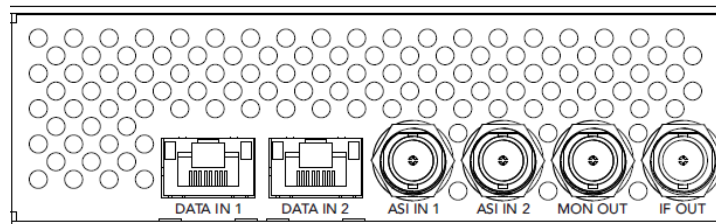

Figure 5: SMD 912(A) single TS input with monitor and IF output
The SDM 912(A) option has four different types of I/O as shown in Figure 5.